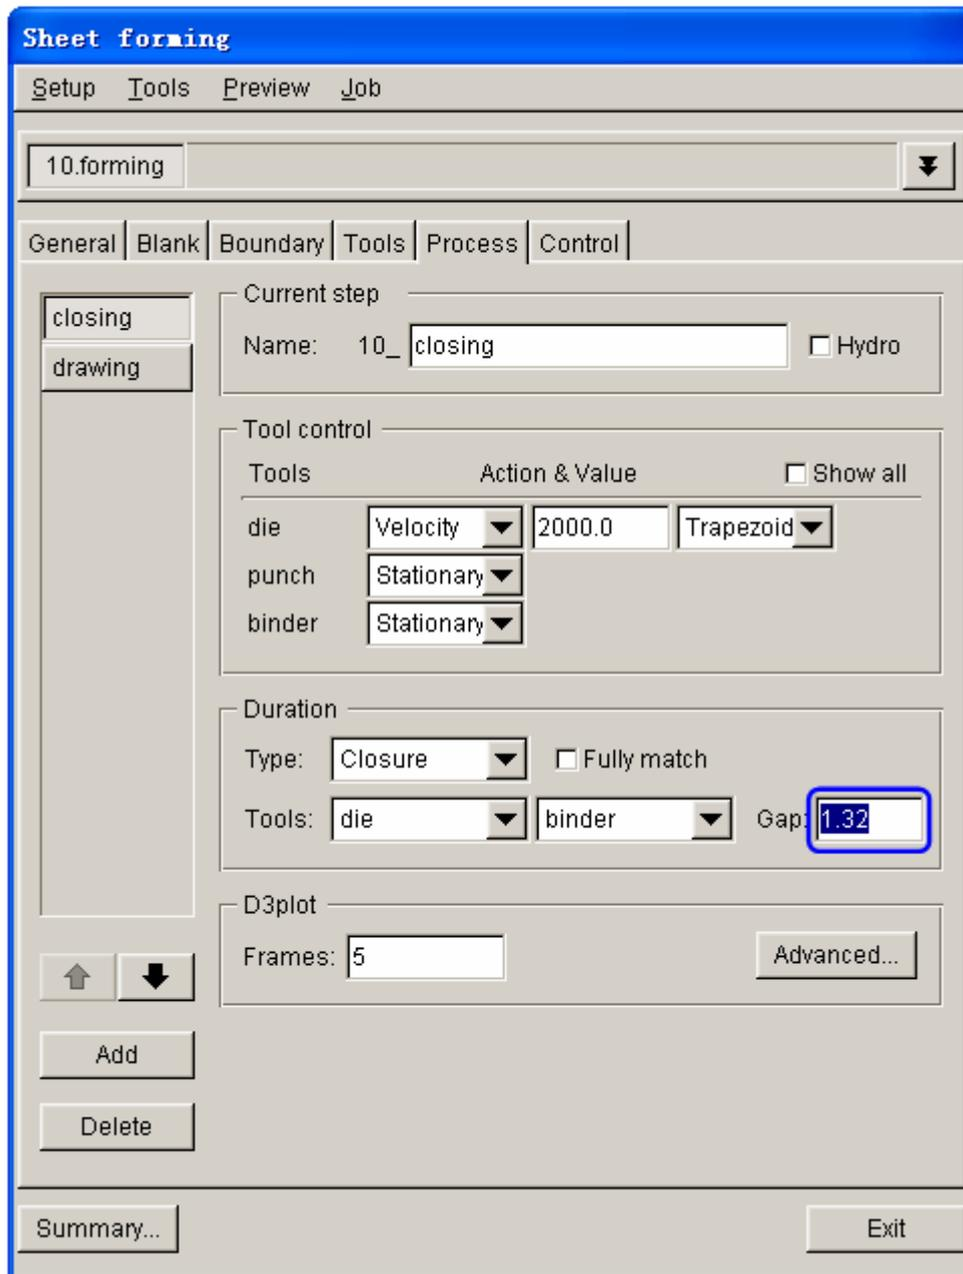

Figure 5.71 Closing process interface
1. Select **closing** process from the list located at left side of the interface as the current process. See Figure 5.71.
2. Set Gap in closing as 1.32. See Figure 5.71.